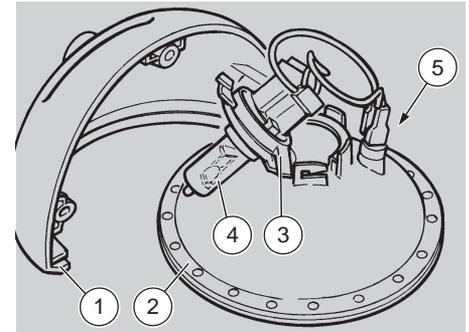

Fig. 58
- ◆ Remove the left half (1-Fig. 58) and the complete parabolic element (2-Fig. 58).
- ◆ Remove the bulb socket (3-Fig. 58), rotating it anticlockwise.
- ◆ Pull the bulb (4-Fig. 58) with care and extract it.
- ◆ Remove the plastic bulb socket (5-Fig. 58) positioned at the side of the dipped/high beam light.